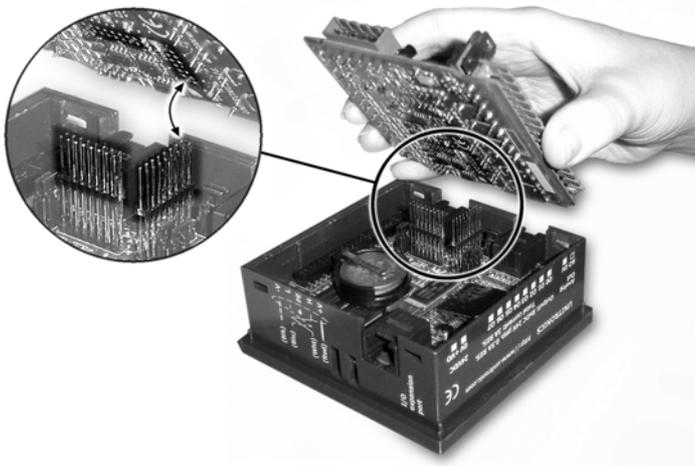

Figure 14. Replacing the Board
6. Gently replace the PCB board as shown in Figure 14. Make certain that the pins fit correctly into their matching receptacle.